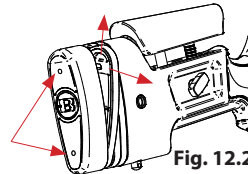

Fig. 12.2
- This rifle has 4 options of length. You can take out spacers to make it shorter or you can add them to make the stock longer. Loosen the recoil pad screws until the spacers are free, turn the spacers to take them out and tighten the screws again (Fig. 12.2). The recoil pad screws have a Phillip tip head.